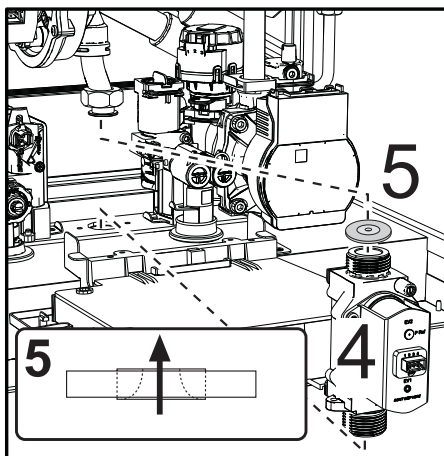

fig. 46
- Remove the gas valve “4” and the gas diaphragm “5” (fig. 46).